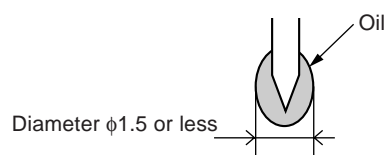
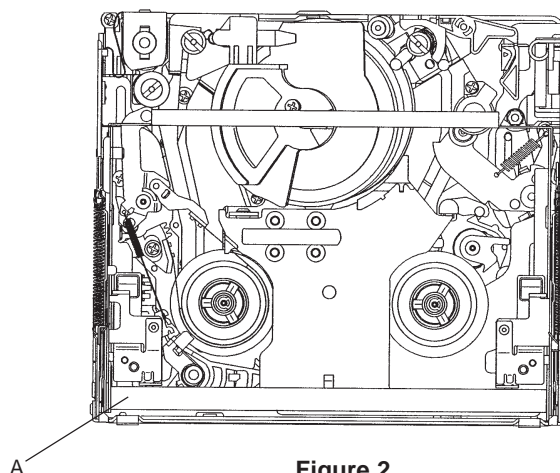

Figure 1
Figure 2
- (1) Any cut washers, once removed for parts replacement or for other reason, must be replaced with new ones.
- (2) The mechanism of this VCR does not involve any volume adjustment. If the specified range is not satisfied, either cleaning or replacing the parts is required.
- (3) Oils
- c) A drop of oil represents the amount of oil which is held on the needle top as shown in the figure 1.
- (4) The circuit repair must be executed without removing the V frame.
- (5) For operating the mechanism alone, actuate it with the motor. The terminal-to-terminal voltage must be DC4V or less.
- (6) When installing the cassette control, press the part A shown in Figure 2.
- (7) Take care so that the whole mechanism is not deformed.